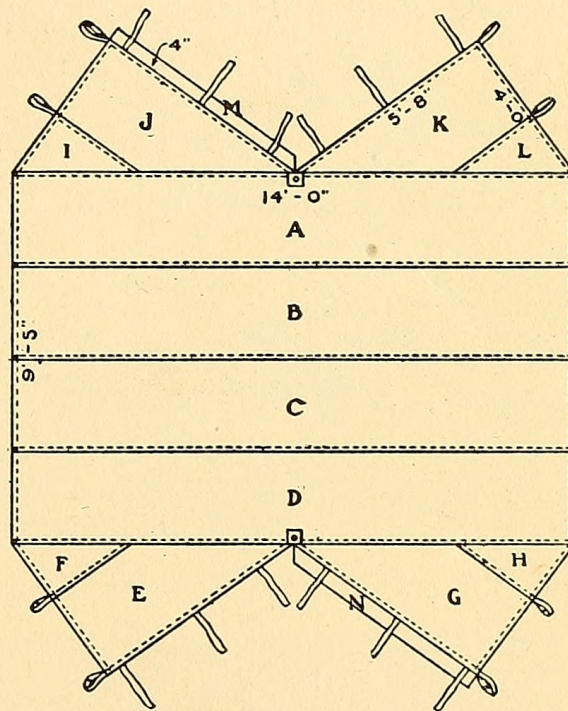

FIG. 420. — Diagram for Making an "A" Tent, 7 feet by 9 feet and 5 inches.
**For making an "A" Tent** of the size shown upon the diagram (Fig. 420), you will require 30 yards of material. The diagram shows the completed tent as it would appear